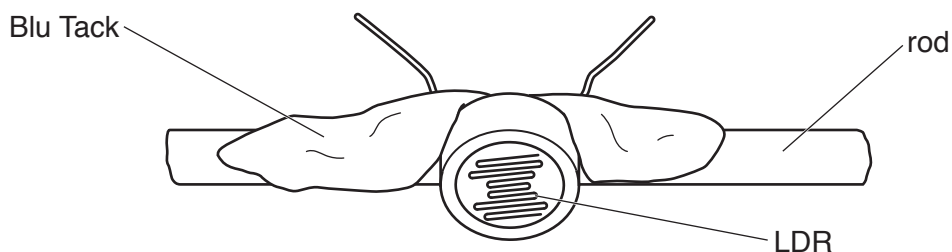

Fig. 4.2
4. A suitable LDR is the Silonex NORPS-12. The RS component code is 914-6714. The LDR should be attached, using a piece of Blu Tack, to a rod of approximate length 8.0 cm as shown in Fig. 4.2.